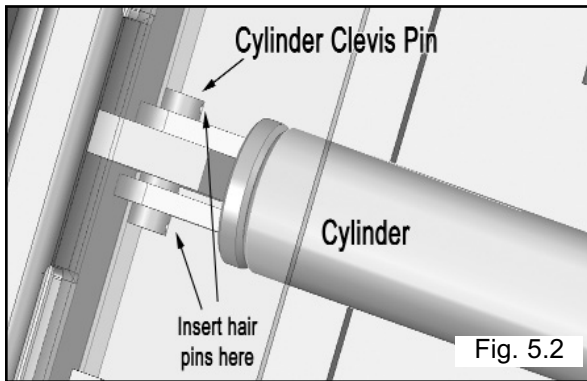

Fig. 5.2
2. Install cylinder and cable block as shown. (See Fig. 5.2 - 5.3)